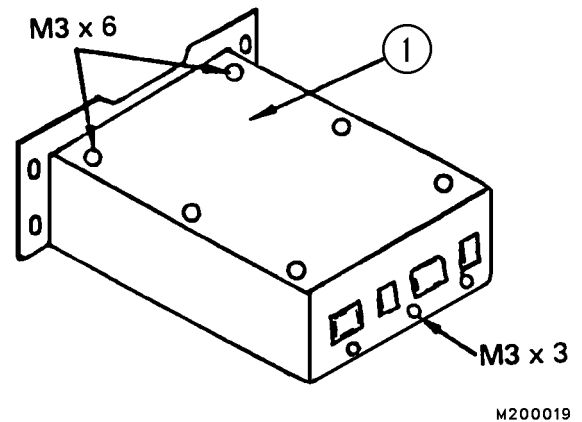

FIGURE 60-8. ACCESS TO BATTERY
4. Remove the electrical connector. Remove the screws on the top surface and the rear face. Remove the cover (Figure 60-8). This will expose the battery, its wires, and the connector.